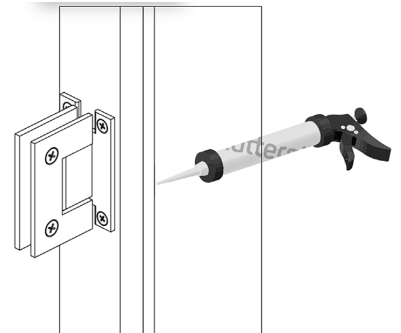

FIGURE 13
Apply a bead of silicone where the Wall Jamb (A) meets the wall on BOTH sides. (See Figure 13)